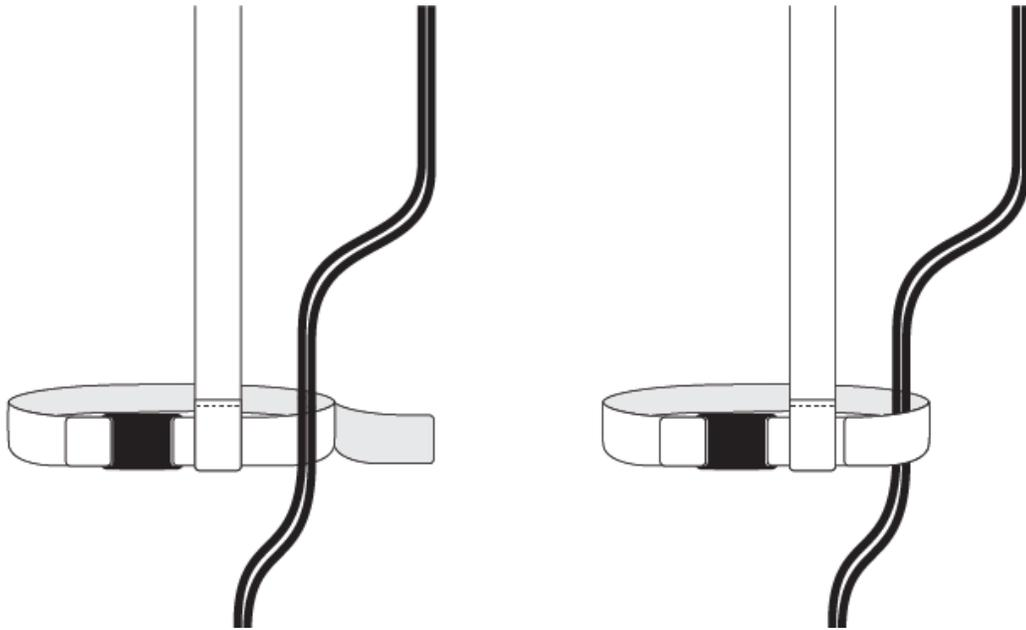

Figure 13. Securing the purple cables with the thigh straps
- Connect the thigh straps to the purple cables by opening up the Velcro on each thigh strap (left image) and enclosing the cables securely (right image), repeat for both legs. (Figure 13)